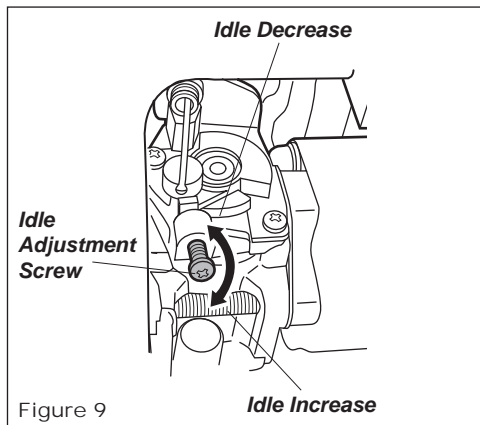

Figure 9
- If a tachometer is available, the engine idle speed should be final adjusted to 3000 ( $\pm 300$ )  $\text{min}^{-1}$  (rpm). See Figure 9.